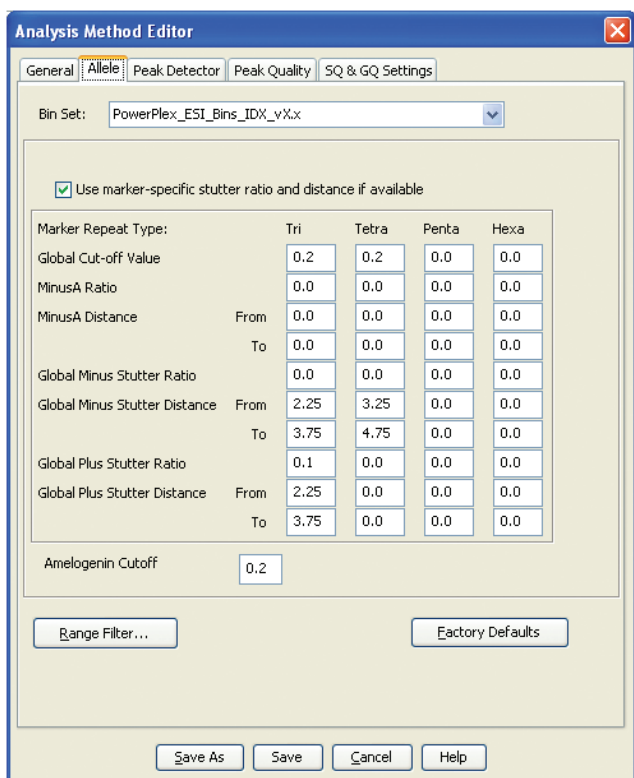

Figure 15. The GeneMapper® ID-X ‘Allele’ tab with settings for using a 20% peak filter.
6. Select the 'Allele' tab (Figure 15).
8. Ensure that the "Use marker-specific stutter ratio and distance if available" box is checked. Doing this will assign locus-specific stutter filters and distances from the imported stutter file. Ensure that the appropriate global filter is applied to this analysis method. For example, for a 20% filter enter "0.20" for the Amelogenin Cutoff and Global Cutoff Value for Tri and Tetra repeats (Figure 15). In-house validation should be performed.